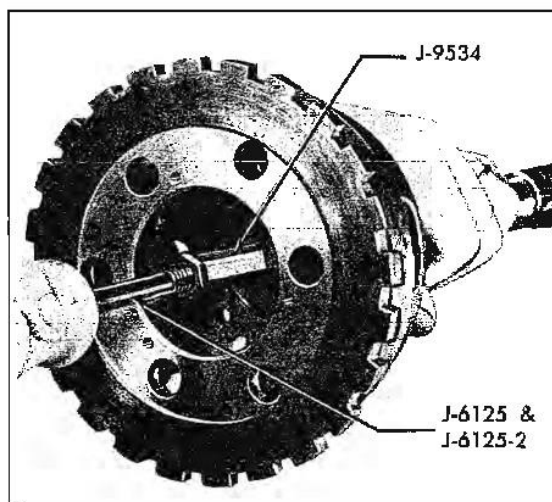

Fig. 7B-89 Removing Output Shaft Bushing
1. Install bushing remover J-9534 into bushing. Install slide hammer into J-9534 and remove bushing (Fig. 7B-89).
2. Using installer J-21424-3 and handle J-8092, press new bushing into output shaft until J-21424-3 touches machined surface of carrier assembly (Fig. 7B-90).